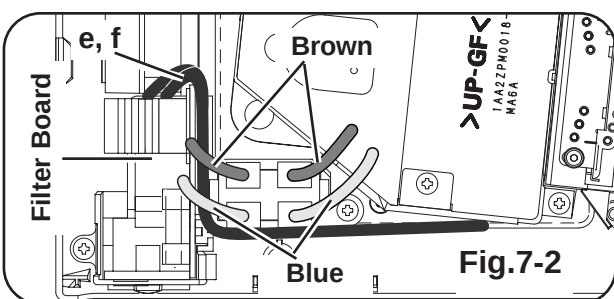

Fig.7-2
- \* Dress the grounding lead (e), (f) as show in Fig.7-2.
- \* Make sure of wires color as shown in Fig.7-2 when connecting the sockets.